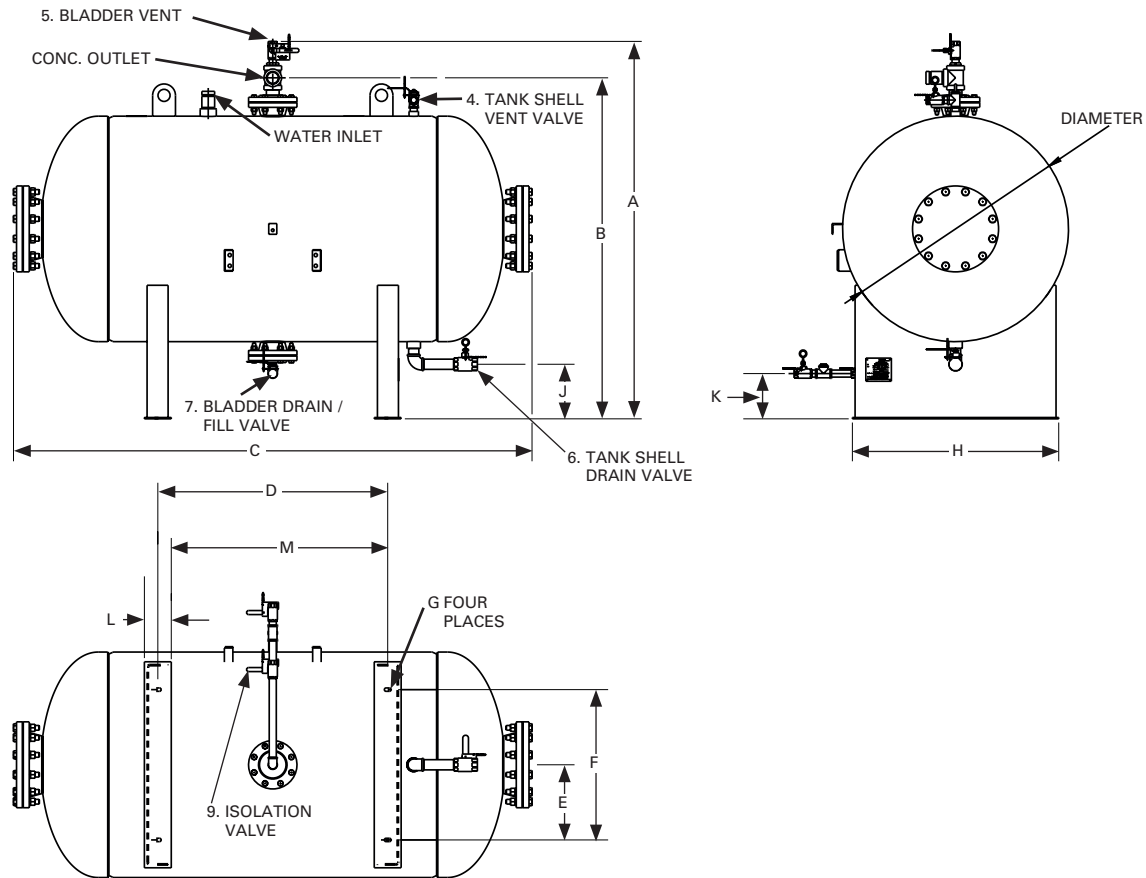

FIGURE 1
* Reference Figure 1 for valve location ** N.C. – Normally closed *** N.O. – Normally open In this arrangement, valves listed as not shown are either supplied as loose items or supplied by others.